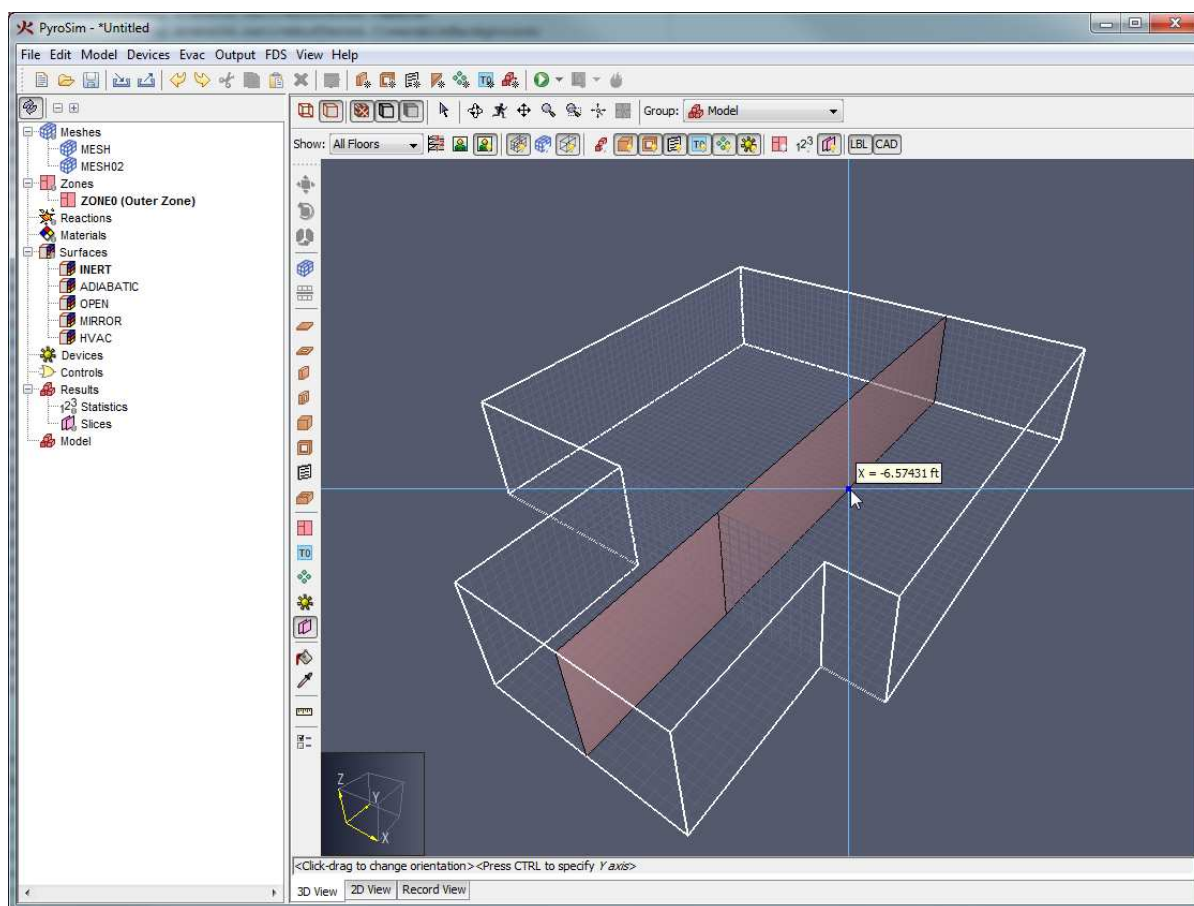

Figure 90. Drawing a slice with the planar slice tool
3. Move the cursor to the desired slice location. A preview slice will be displayed as shown in Figure 90.